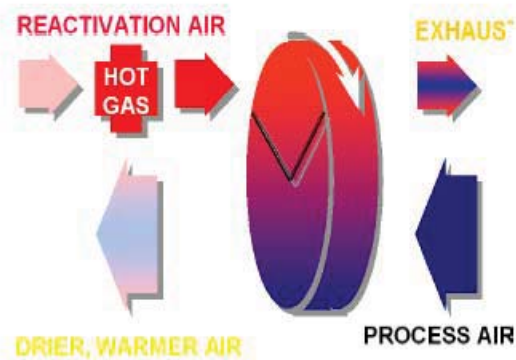

Figure A1-9 Solid Desiccant
1) **Solid Desiccants** (Figure A1-9)